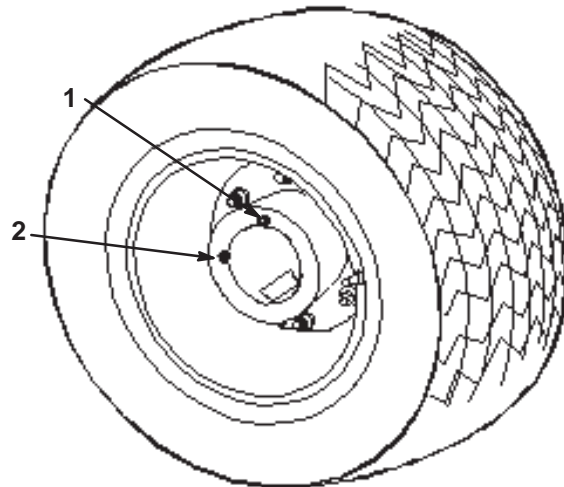

Figure 43
6. Move the vehicle slowly until the wheel is positioned for filling as illustrated in Figure 43.